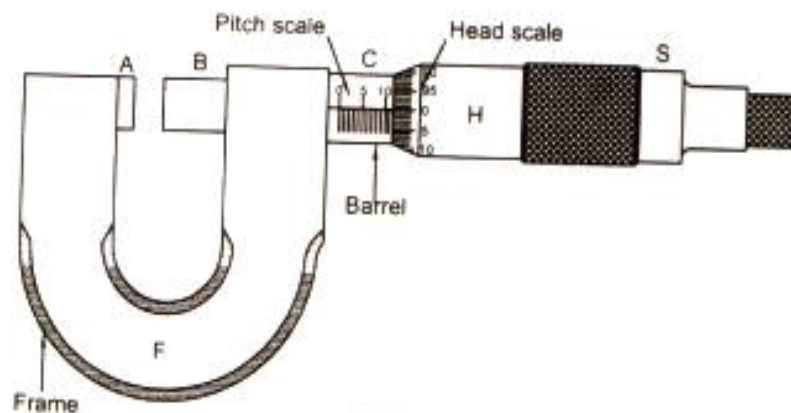

Fig B-1
It consists of two scales namely pitch scale and head scale. Pitch scale is a millimeter scale engraved on the cylinder (C), which is rigidly attached with the frame (f). The head scale carries 100 equal divisions. The specimen can be held inbetween the two edges A (fixed) and B (movable) as shown in fig.B-1.